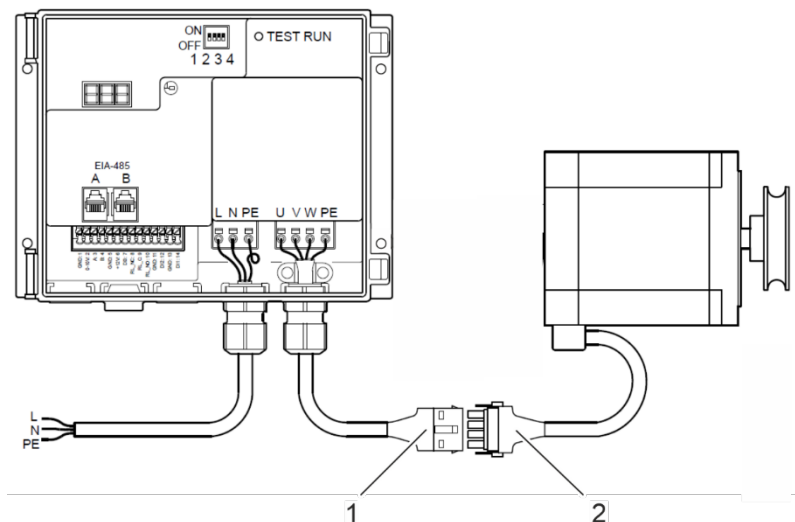

Fig. 100: Stepper motor cable connection
18. Connect the stepper motor extension cable (Fig. 100/1) to the stepper motor cable. (Fig. 100/2).